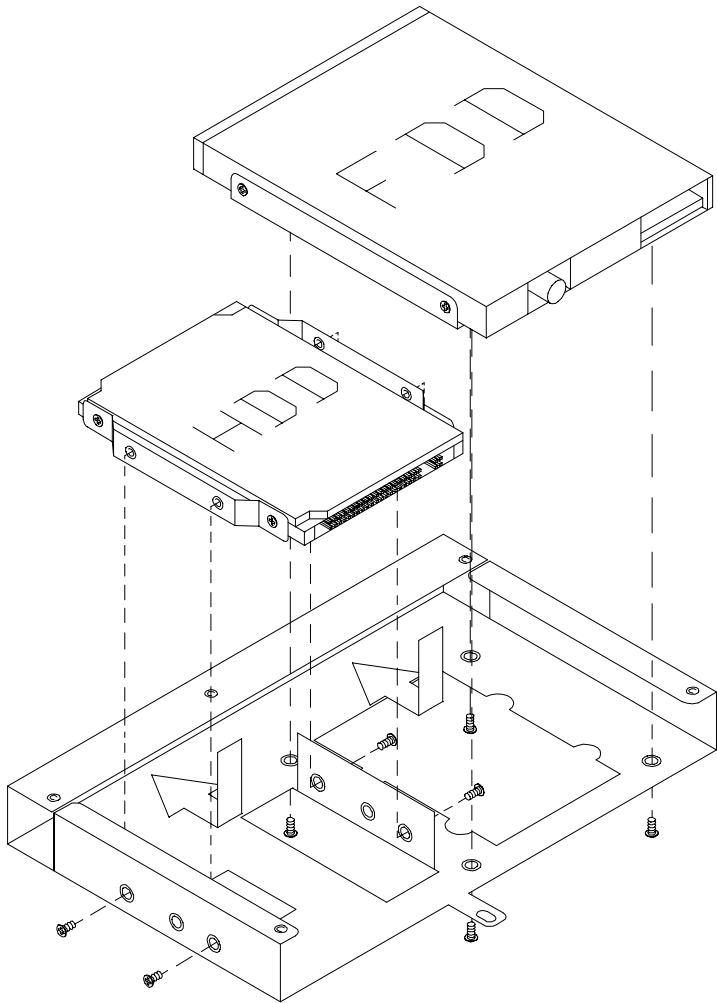

Figure 2-6: Removing the HDD/FDD bracket screws
7. Remove the four screws in the bottom of the HDD-FDD bracket (see Fig. 2-6).
10. Fasten the four screws in the bottom of the HDD-FDD bracket (see Fig. 2-6).